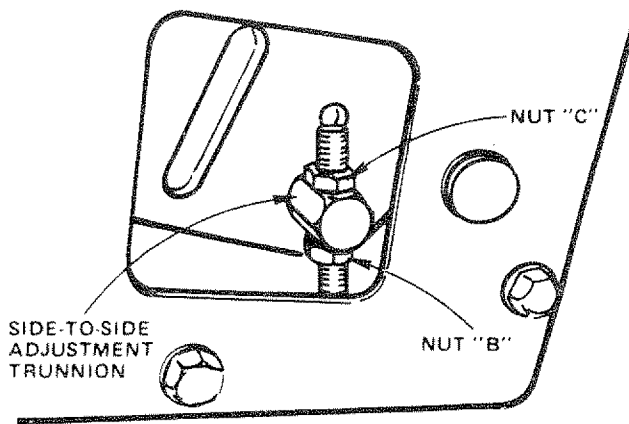

FIGURE 40
- If distance "A" needs to be changed, snap out access hole cover on L.H. side above footrest. Use 11/16" wrench on nuts "B" and "C" at side-to-side adjustment trunnion (Fig. 40).